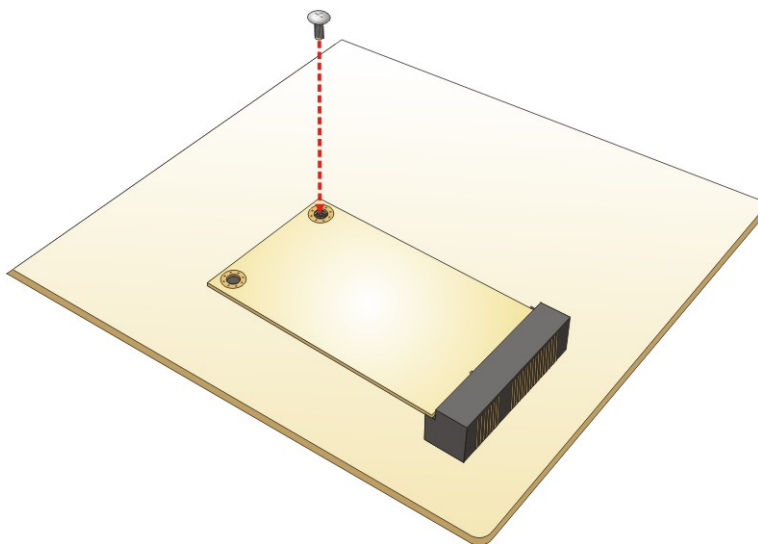

Figure 4-11: Securing the mSATA Module
Step 4: Secure the mSATA module. Secure the mSATA module with the retention screws previously removed (Figure 4-11).